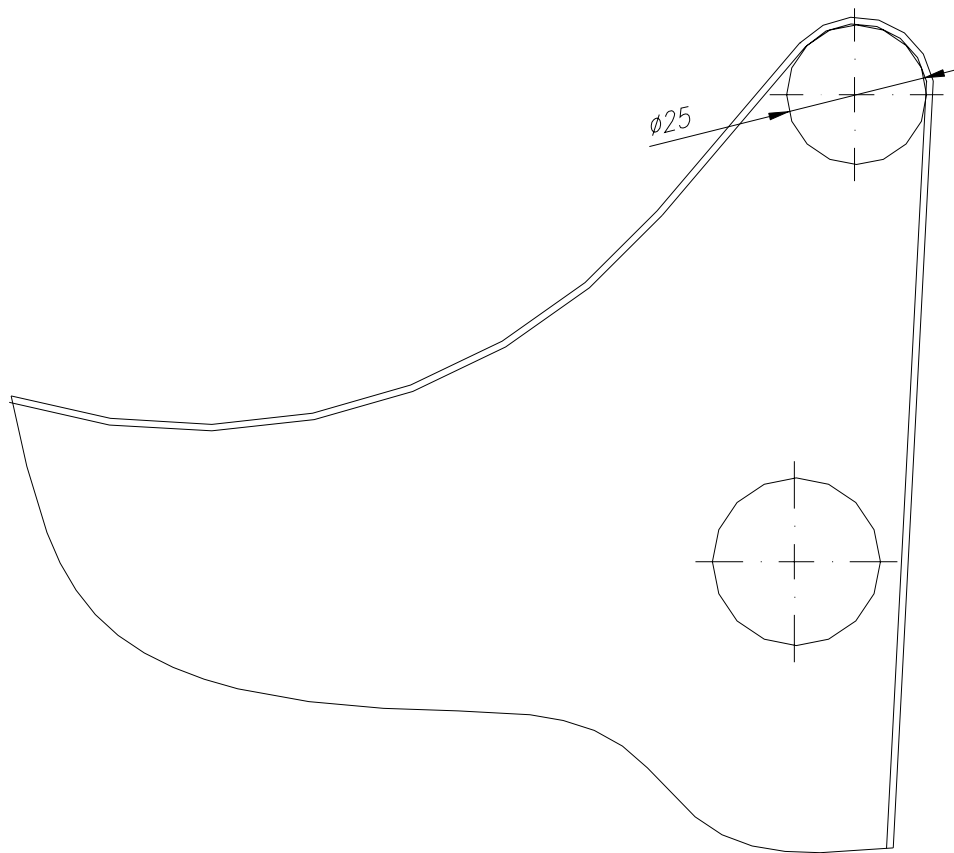

Fig. 3
- add cut out to the seat frames according to figure 3. Use 6mm diameter 90° cutter or equally suitable equipment. Grind off any sharp edges